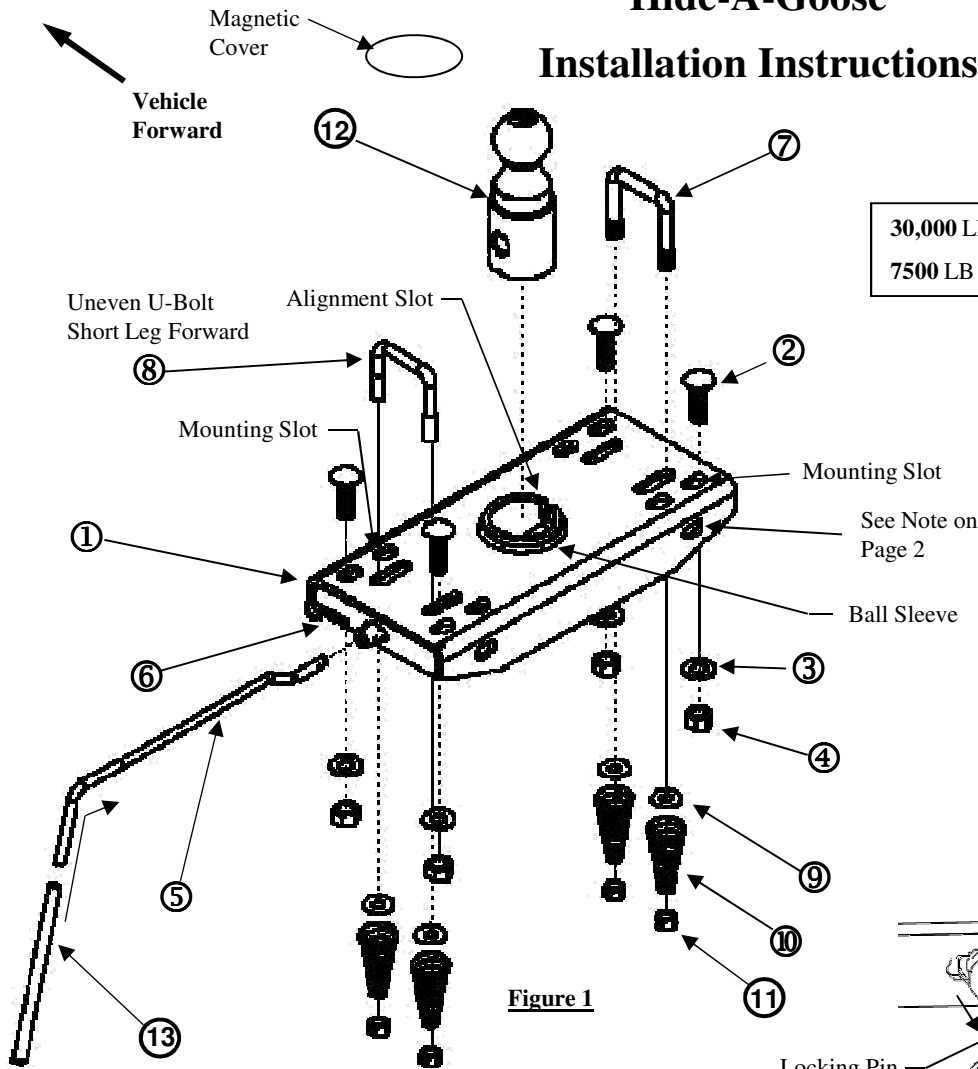

Figure 1
10. From under the truck, install the 1/2" flat washers, U-Bolt springs, and 1/2" lock nuts (see figure 1 and 2). Tighten nuts so a minimum of 3 threads are showing passed the nuts.
NOTE: If not installing head on Towing Products manufactured mounting kit, secure the hitch to your mounting system using the four holes in the front and back of the hitch and four 5/8" (grade 5) bolts (not provided). See figure 1. This is in addition to the four vertical bolts provided in the kit and will allow you to obtain the maximum head rating of 30,000 Lb GTW / 7500 TW Lb.